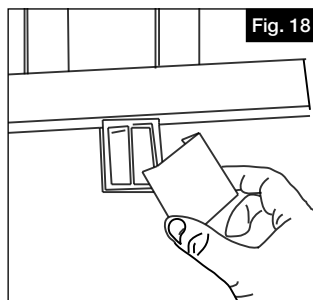

Fig. 18
- Attach the support foot to the deck surface using support foot screw and snap the cover into place (10' only) (Fig. 18).